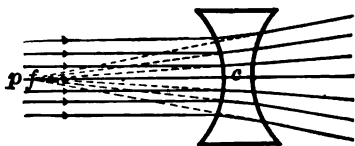

FIG. 163
The effect of concave lenses is to make the refracted rays diverge, *i.e.* spread away from each other (Fig. 163).
**230. Concave Lenses.** — Fig. 163 shows how parallel rays *diverge* after passing through a concave lens. Rays from *p* pass through the lens *c*. As explained in § 228, the principal axis *pc* is not refracted. The rays on either side of it are refracted on entering and leaving the lens, being in every case bent *away from the axis*. The point *f*, from which the refracted rays *seem* to come, is the focus of this lens. As the rays do not really come from this point, it is called a *virtual focus*.